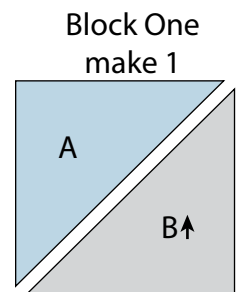

Fig. 1
1. Sew (1) 15 $\frac{7}{8}$ " Fabric A triangle and (1) 15 $\frac{7}{8}$ " Fabric B triangle together along their long sides to make (1) Block One square (Fig. 1). Trim the block to measure 15 $\frac{1}{2}$ " square.